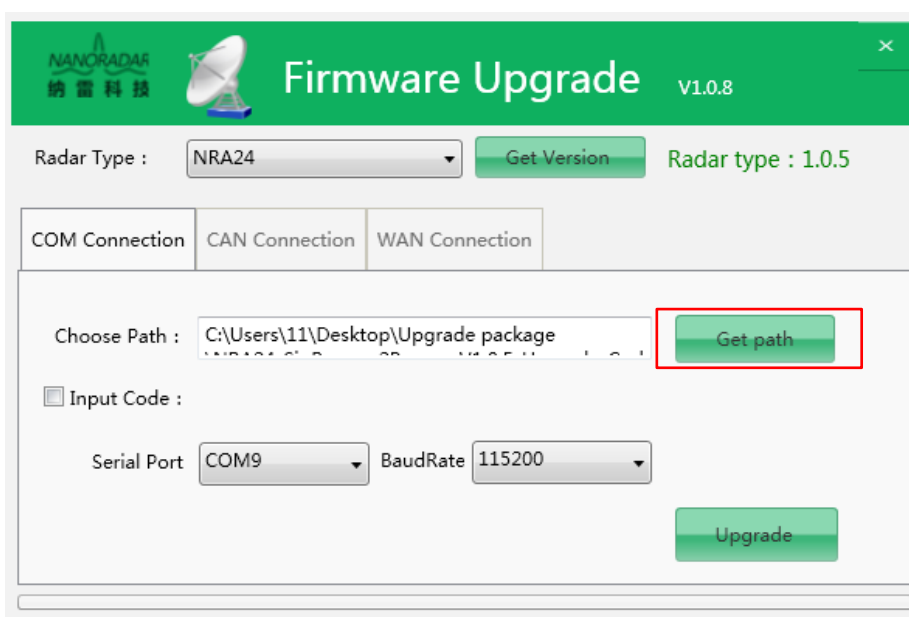

Figure 15 Get path
c) Click on the "Get path" button, and select the firmware to be upgraded, with the format "*.Hex", as figure 15.
Then enter the upgrade password as shown in Figure 15. Generally there is no need to check this option. In case that the upgrade fails during the upgrading, check the "Enter Password" option and enter the correct password and re-upgrade.